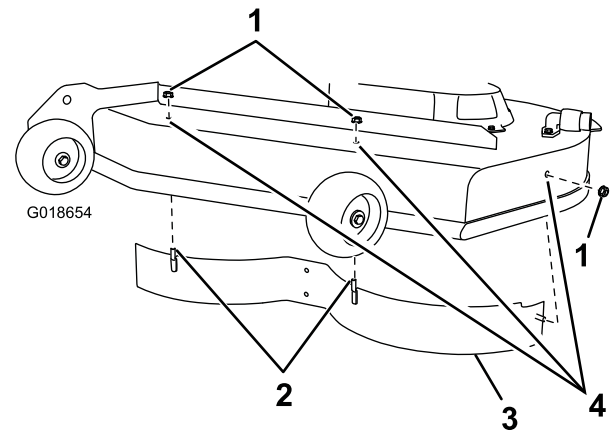

Figure 26
6. Remove the left hand baffle from the mower deck shown in Figure 26. Plug the open holes with nuts and bolts.